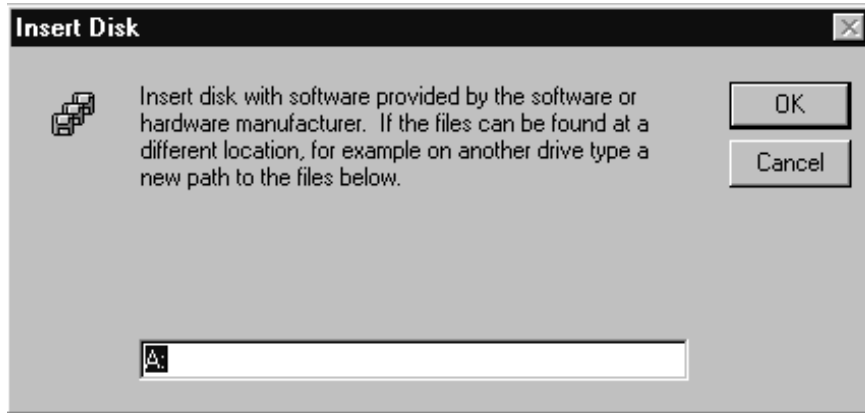

Figure 3-8. Insert Disk Dialog Box
4. The **Insert Disk** screen is displayed (Figure 3-8).